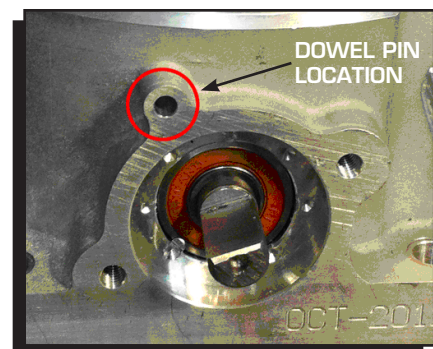

Figure 1 Dowel Pin Location.
1. Place the Throttle Position Sensor (TPS) sensor onto the throttle body with the centering dowel in the locating hole (Fig 1).